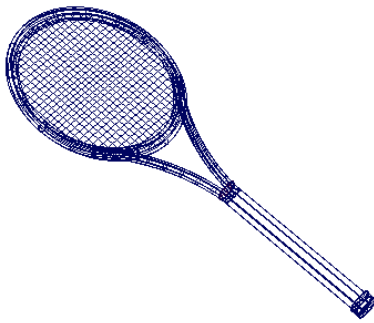

Figure 3-85 Model after creating the net
5. Similarly, create vertical lines by pressing the right mouse button while the **Line** tool is still active. The model after creating the net is shown in Figure 3-85.